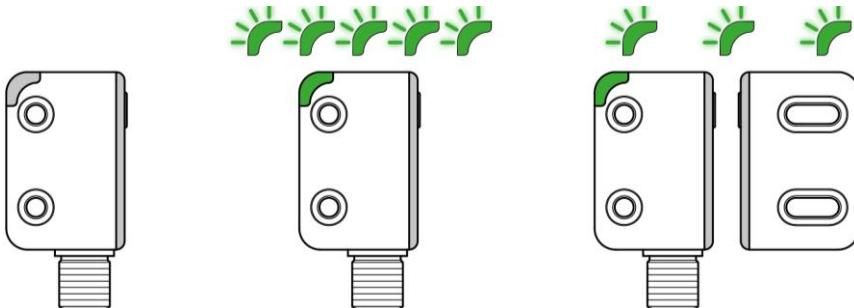

Figure 28 - Teach-in signals
- Power on the R-Safe RFID sensor (Figure 28, condition A).
- After power on, the sensor will be ready for pairing with the actuator (Figure 28, condition B).
- When the actuator is approaching the RFID sensor at a distance \leq 2mm, the sensor is programmed after 5 seconds (Figure 28, condition C).